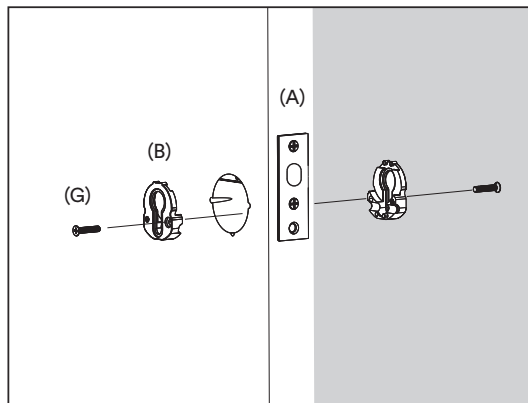

Figure 7.
11. Using your preferred method remove enough material so the deadbolt euro body (A) with face plate (C) will fit flush to the door edge.
12. Countersink both pilot holes to allow the face plate (C) to fit snugly into the opening.
13. Now permanently fix the deadbolt euro body (A) with the face plate (C) to the door using wood screws (F).
14. Attach the euro cylinder brackets (B) to both sides of the deadbolt euro body (A) using the euro cylinder bracket bolts with Loctite (G) – not the bolts initially removed in step 6. Figures 7 & 8.